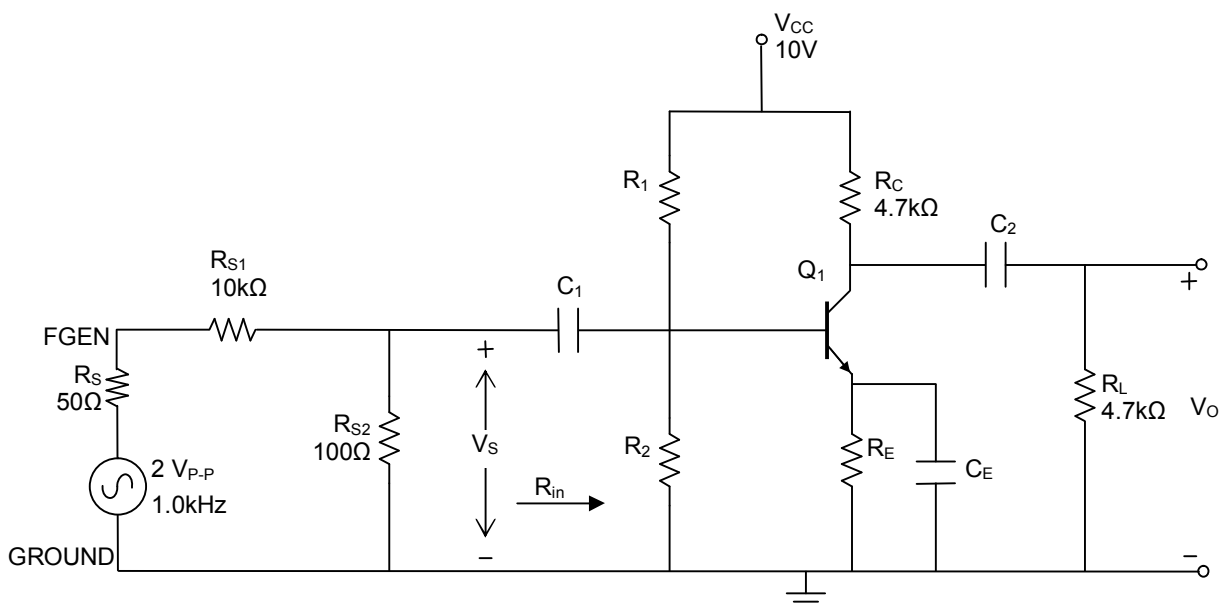

Figure 9.1: Common-emitter Amplifier
2. Design a single stage, BJT CE amplifier with the specifications given below. Note that the signal source comprises the function generator and the voltage attenuator (see Figure 9.1). The output impedance (R_s) of the function generator is 50Ω . Your amplifier should also meet the following design specifications:
1. In Figure 9.1, the resistor R_S , represents the 50Ω internal impedance of the signal generator. The two resistors, R_{S1} and R_{S2} , are a voltage divider, external to the signal generator. These two resistors are chosen to keep the input signal to the amplifier low enough to insure that the output wave shape is not distorted. Use an input signal of $0.02V_{P-P}$ at the base of the transistor. To get this signal, you must use a $2V_{P-P}$ output from FGGEN.
2. Complete your circuit as shown in Figure 9.1, using R_{S1} , R_{S2} , R_L , and capacitors (use $22\mu F$ or $47\mu F$). R_S is an internal resistance already in the FGGEN.